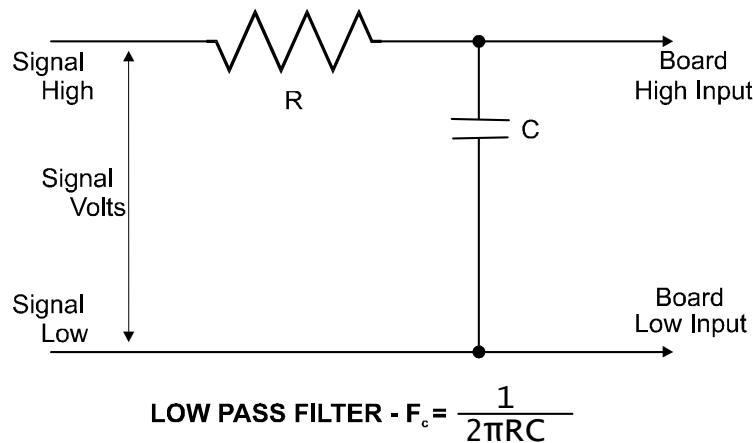

Figure 4-4. Low-pass filter schematic
In a digital circuit, a low pass filter might be used to "de-bounce" (filter) an input from a switch or external relay. (Unless switch/relay contacts are mercury-wetted, they tend to bounce briefly on closure, generating a pulsating noise signal.) A simple low-pass filter can be constructed from one resistor (R) and one capacitor (C) (refer to Figure 4-4).